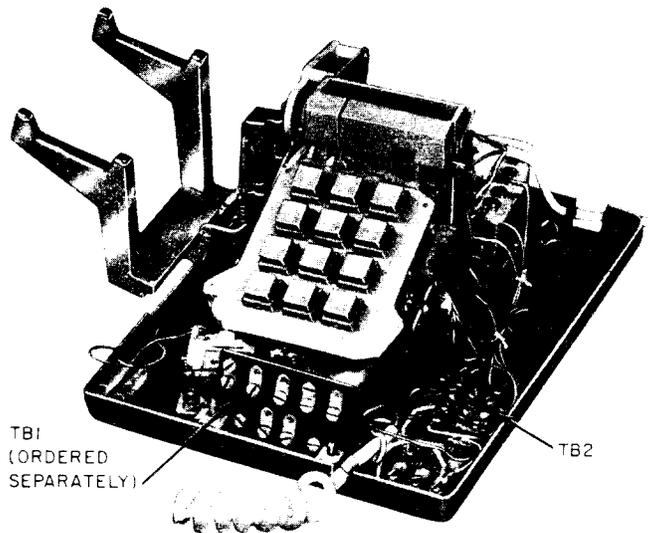

Fig. 2—F-58554 Telephone Set, Location of TB1 for Speakerphone Use Only
3.05 When speakerphone is required, (order separately) D10R mounting cord, P-24E240 terminal board, and (10) P-43A392 screws. Install terminal board (TB1) at location shown in Fig. 2. Replace existing mounting cord with D10R and make the necessary wiring modifications and connections in accordance with Table D and Fig. 6.